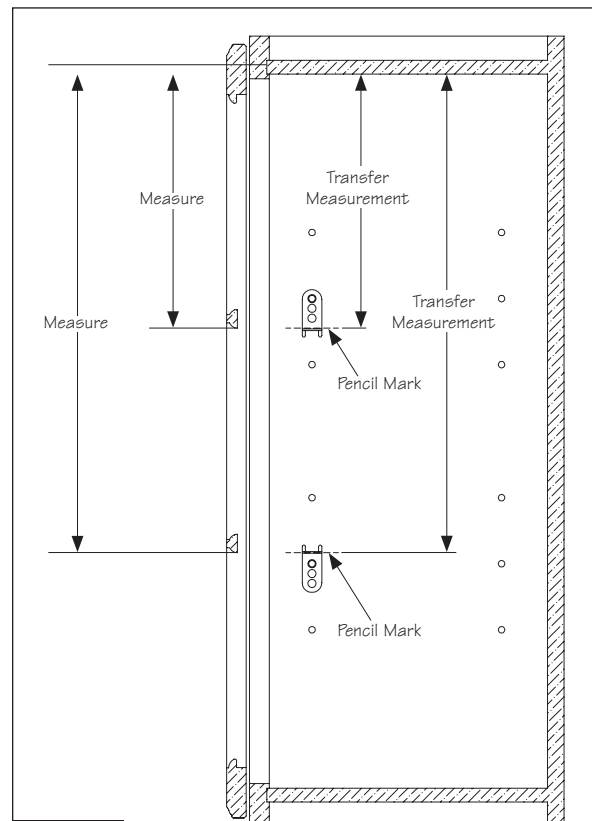

Figure 1
- 2** Measure down from the inside of the top of the cabinet to the bottom of the mullion door grids, as seen in Figure 1. Transfer the distance down from the inside of the top of the cabinet, in line with the shelf clip holes in the side panel, marking with a pencil, as seen in Figure 1.
- 4** If the pencil mark is either above or below a shelf clip hole, then an Adjustable Shelf Rest will be needed for that location. By holding the flat surface of an Adjustable Shelf Rest along that pencil mark, rotate and move the Adjustable Shelf Rest until one of the screw holes is close to a shelf clip hole in the Side Panel, as seen in Figure 1.
- NOTE:** The adjustable mullion shelf rests can be installed upside down in order to achieve your desired location as shown in the bottom of Figure 1.